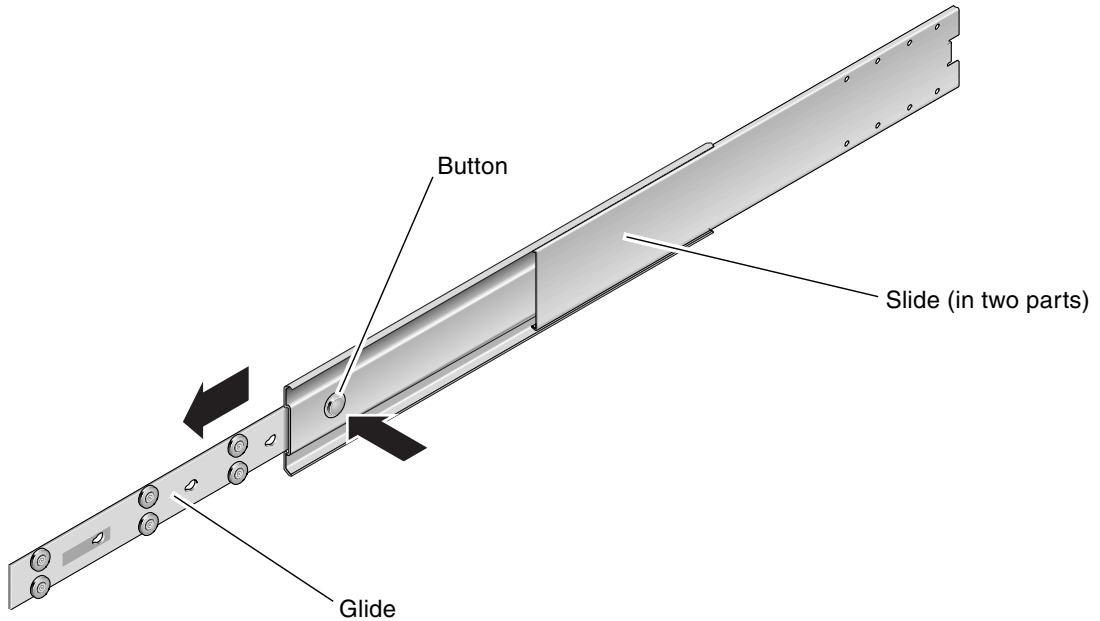

FIGURE 3-8 Dismantling the Slide
4. Press in the button on each slide and pull the glide completely out of the slide (FIGURE 3-8).